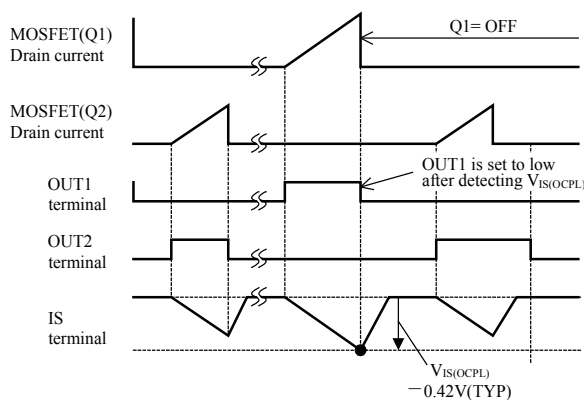

Figure 14. $V_{IS(OCPL)}$ operation waveform after OUT1 is set to high and OUT2 is set to low
- If either one of OUT1 or OUT2 is high when the fault occurs, that output is now set low (so both outputs are off). Figure 14 is